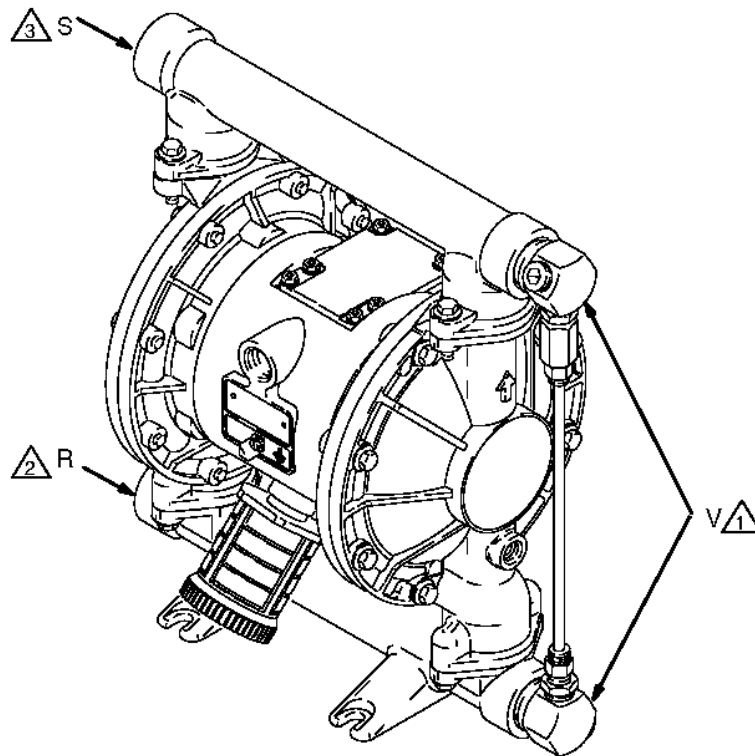

Fig. 7
Pressure Relief Kit 235409 (V) is available for Aluminum Pumps, to prevent over pressurization and rupture of the pump or hose. See Fig. 7. The kit includes instructions.